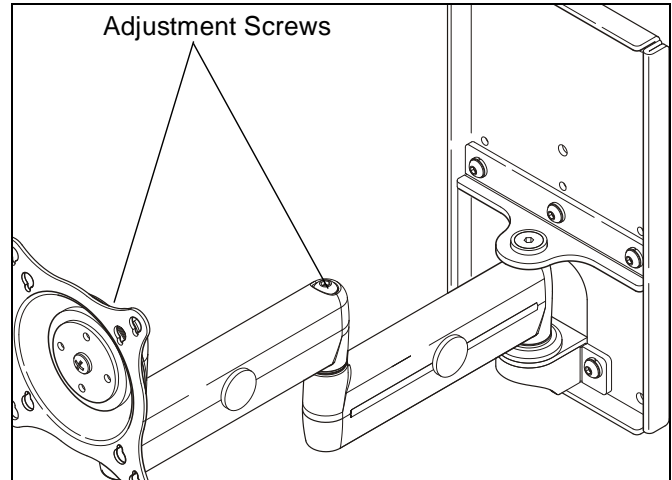

Figure 13
1. Using 3/16" hex key, slightly loosen or tighten the adjustment screw(s) as necessary (See Figure 13).